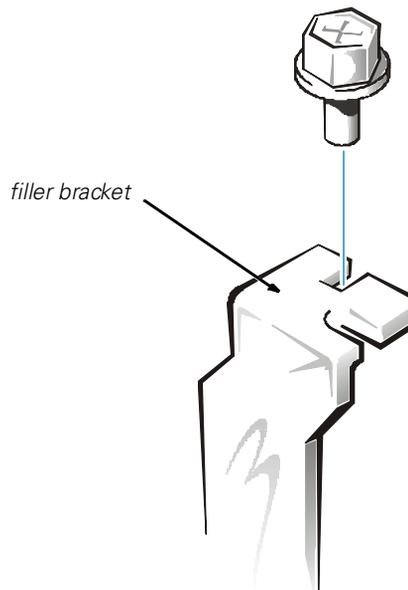

Figure 8-2. Removing the Filler Bracket
2. Unscrew and remove the metal filler bracket that covers the card-slot opening for the expansion slot you intend to use (see Figure 8-2). Save the screw to use when installing the expansion card later in this procedure.